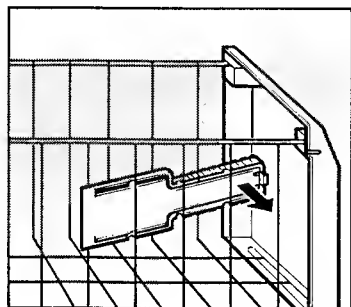
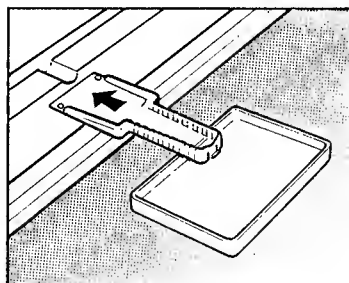

FIG 1
FIG 2
Frost accumulates on the cooling surfaces during normal working and should occasionally be removed using the plastic scraper supplied (clipped to the inside of the bottom basket) (see fig 1).
2. Remove the plastic scraper from its storage position on the inside of the bottom basket (see fig 1) and fit into the slot located in the centre of the bottom front of the cabinet (see fig 2). Place a suitable container under the spout to collect the defrost water.